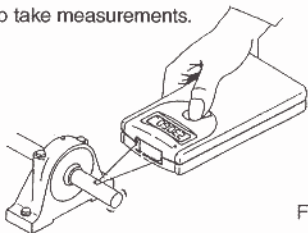

Fig. 1
- (1) Attach a piece of reflective marker tape on the rotating object to be measured. Wipe out the surface of the object to ensure that it is free from water, oil and dust. If the object itself is reflective having a plated surface, for example, aim the light beam at a slight angle, coat the surface with black paint, or take other appropriate measures to prevent reflection from the object before attaching the reflective marker.
- (2) While holding the Measure switch down, aim the red light beam emitted from the probe head at the reflective marker as shown in Fig.1 and confirm the on-target indicator flashes. The distance between the probe head aperture and reflective marker must be 20 to 300 mm to take measurements.